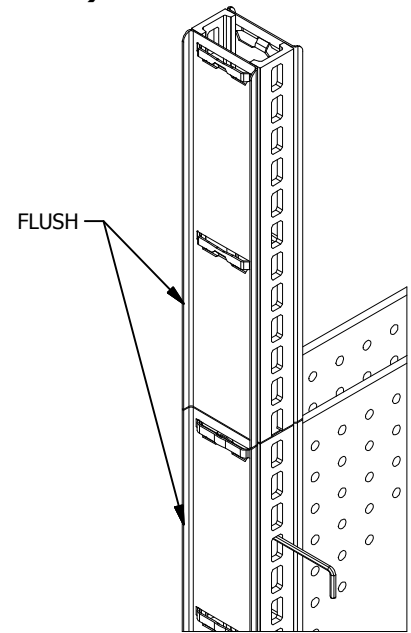

FIGURE 3
STEP 3: LINE UP EXTENSION UPRITE WITH EXISTING UPRITE. (**FIGURE 3**)